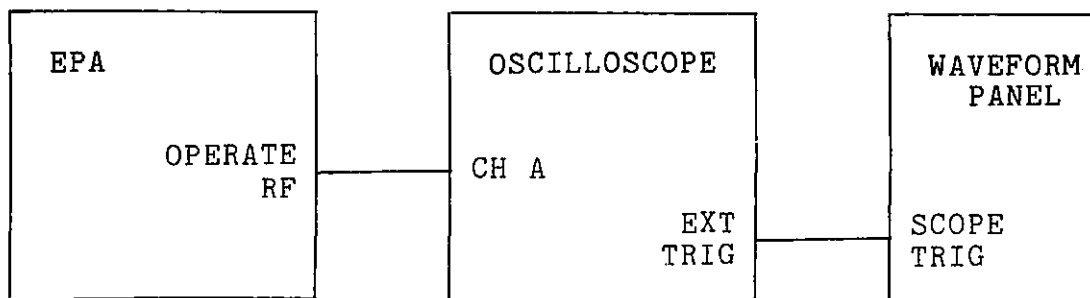

Figure 3.9. Equipment Setup for Droop and Phase Code Monitoring
3.3.2.4 Droop and Phase Code monitoring. Refer to Figure 3.9 and the following steps to monitor droop and phase code: